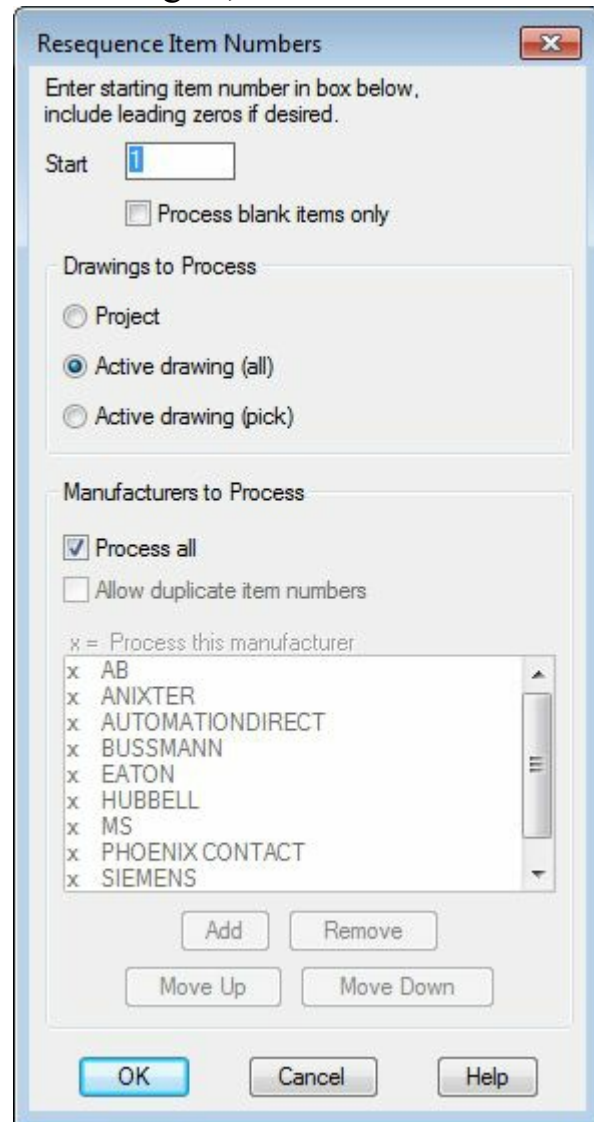

Figure-42. Resequence Item Numbers dialog box
- Click on the **Resequence Item Numbers** tool from the **Edit Footprints** panel. The **Resequence Item Numbers** dialog box will be displayed; refer to Figure-42